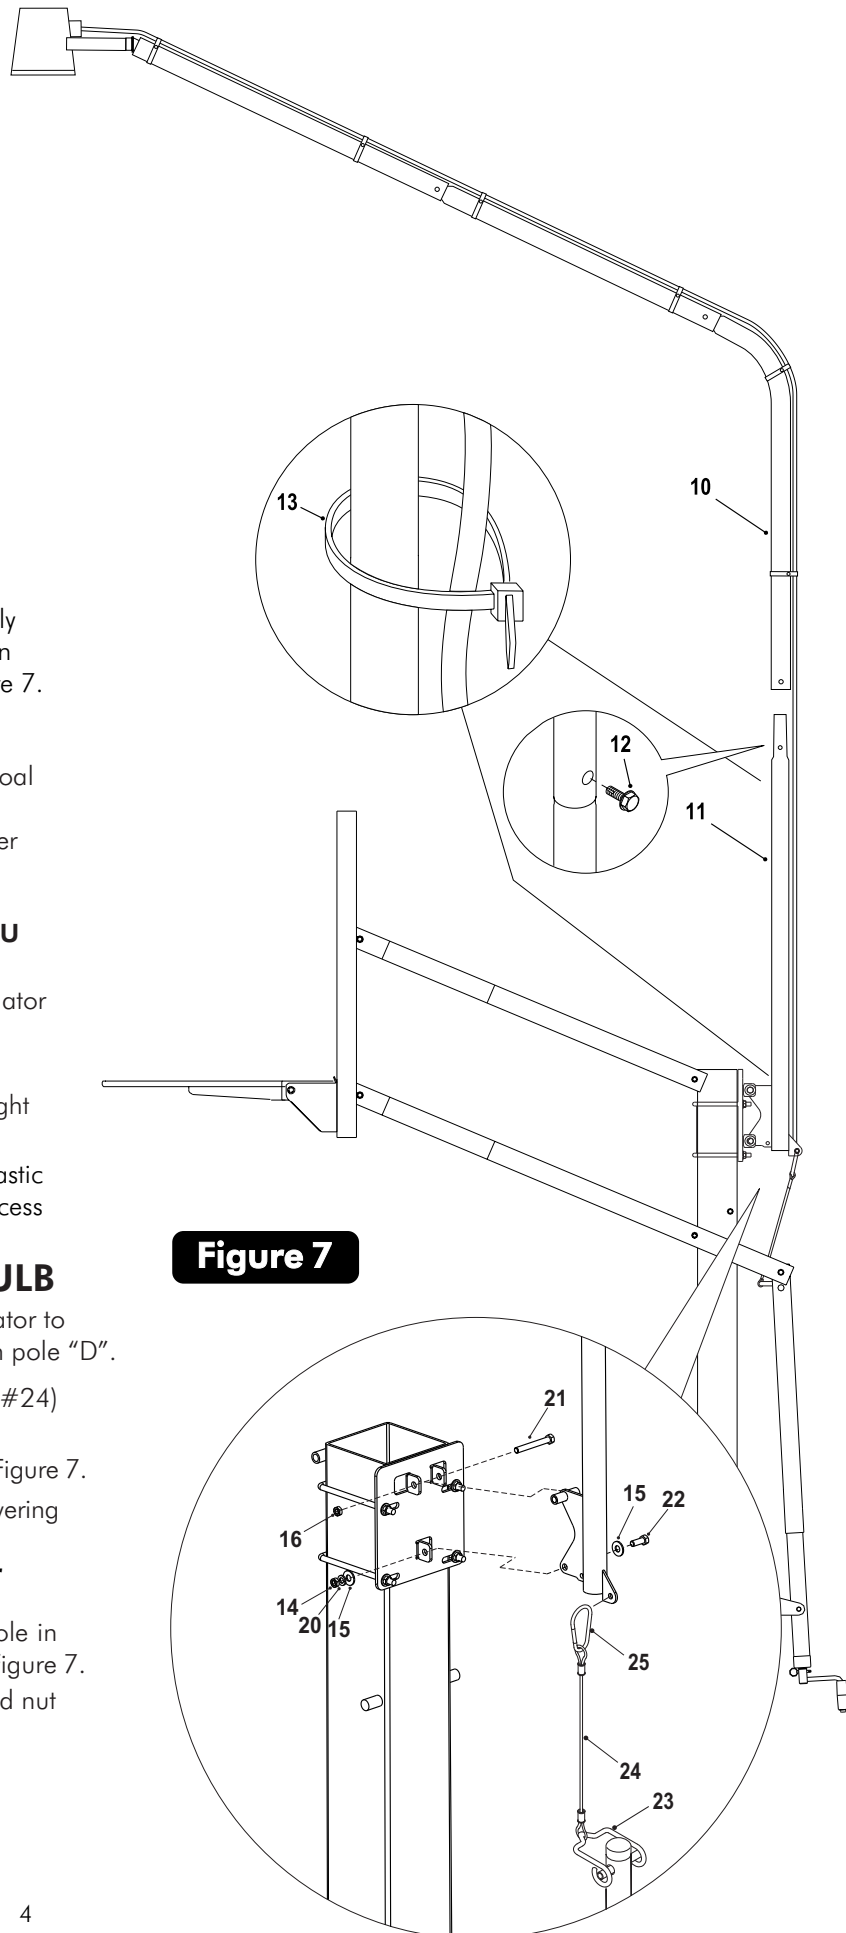

Figure 7
14. With the help of at least one other adult, lift hooplight assembly up and insert Pole Section "C" (#10) on top of Pole Section "D" (#11). Secure with a self tapping screw (#12). See Figure 7.
19. Secure the remaining electrical cord to the pole with two plastic ties (#13) in the locations shown in Figure 7. Cut off excess Plastic tie.
3. Remove bottom bolt (#22) that holds hoop light to post. See Figure 7.
6. Raise goal by turning actuator handle. Raise height until hole in hoop light bracket aligns with hole in tab on goal post. See Figure 7. Reinstall bolt (#63), washers (#62), lockwashers (#75), and nut (#76) you removed in step 3.